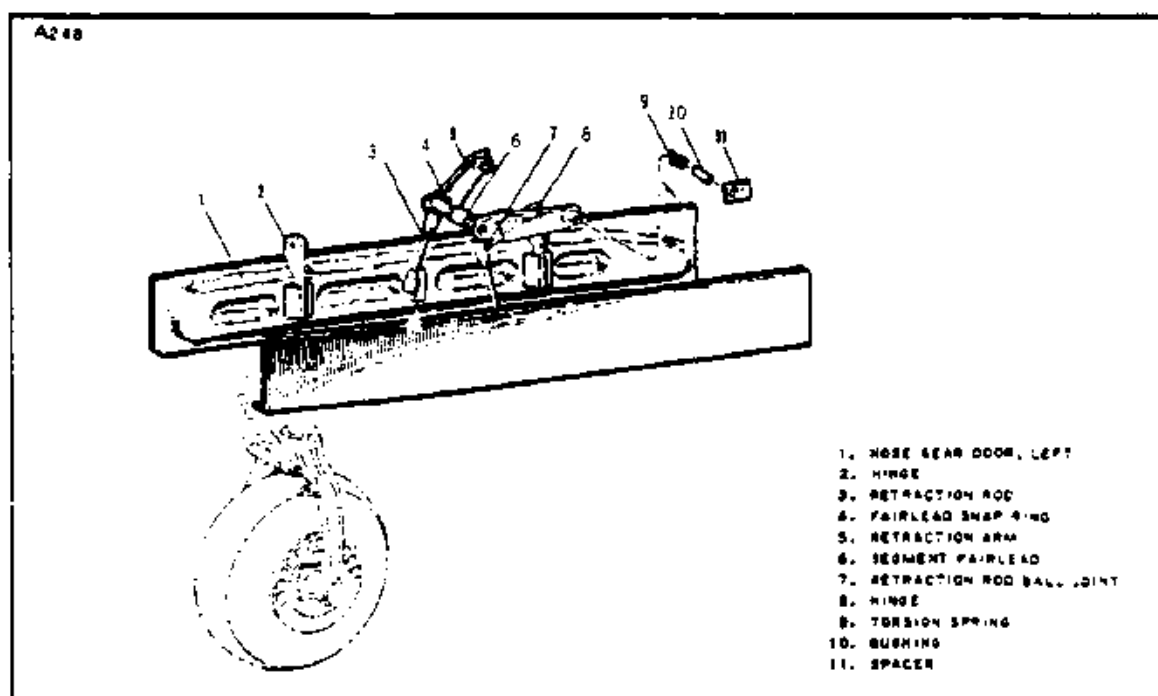

Figure 7-7. Nose Gear Door Installation
#### 7-14. REMOVAL OF NOSE GEAR DOOR ASSEMBLY. (Refer to Figure 7-7.)
**7-16. INSTALLATION OF NOSE GEAR DOOR ASSEMBLY. (Refer to Figure 7-7.)**
- a. Install retraction arms (5) in the wheel well with torsion spring (9), bushing (10) and spacer (11) (left side only) and secure with bolts, washers and nuts.
- c. Connect retraction rods (3) to doors (1) and retraction arms (5) and secure with washers and locknuts.